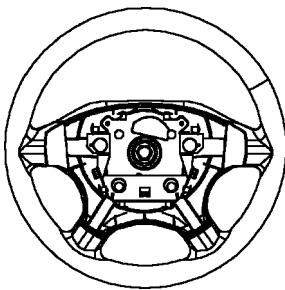

Fig. 1.
- (1) Steering wheel, see Fig. 1.